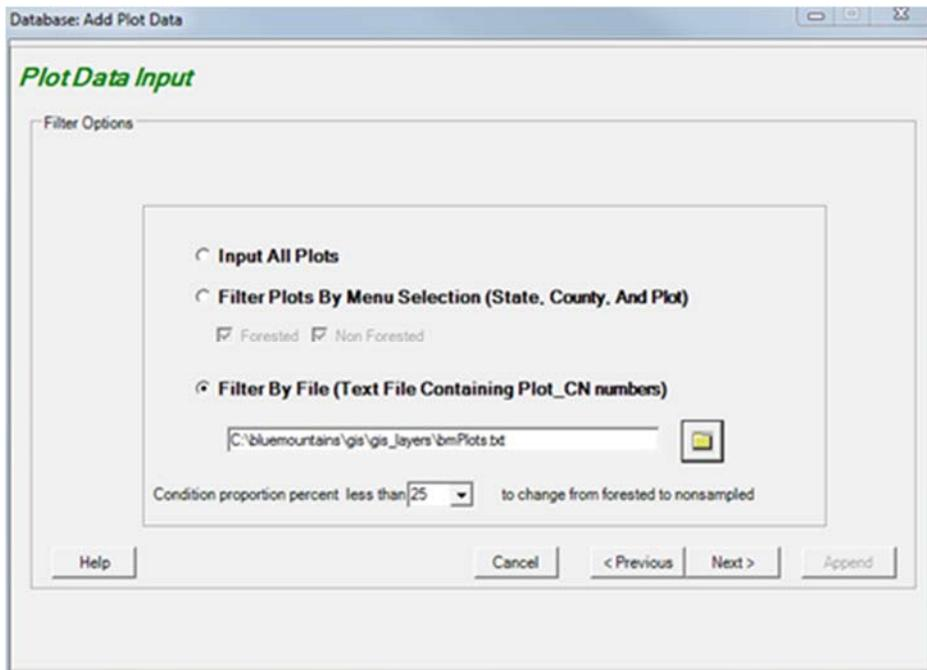

Figure 2.11 – Filter CN using a text file.
3. **Option 3– Filter by File.** Plots will be filtered based on Plot CN (control number) values listed in a text file, one value per line (see Figure 2.11). To designate the text file, select **<Filter by File (Text File Containing Plot\_CN numbers)>**, choose the text file, click **<Open>**, select the inventory of interest, and then click **<Next>** to load the population tables and generate the Eval ID selection screen. Select the evaluation set of interest and click **<Next>**. Loading may continue for several minutes, even on computers with fast processors, so be patient.